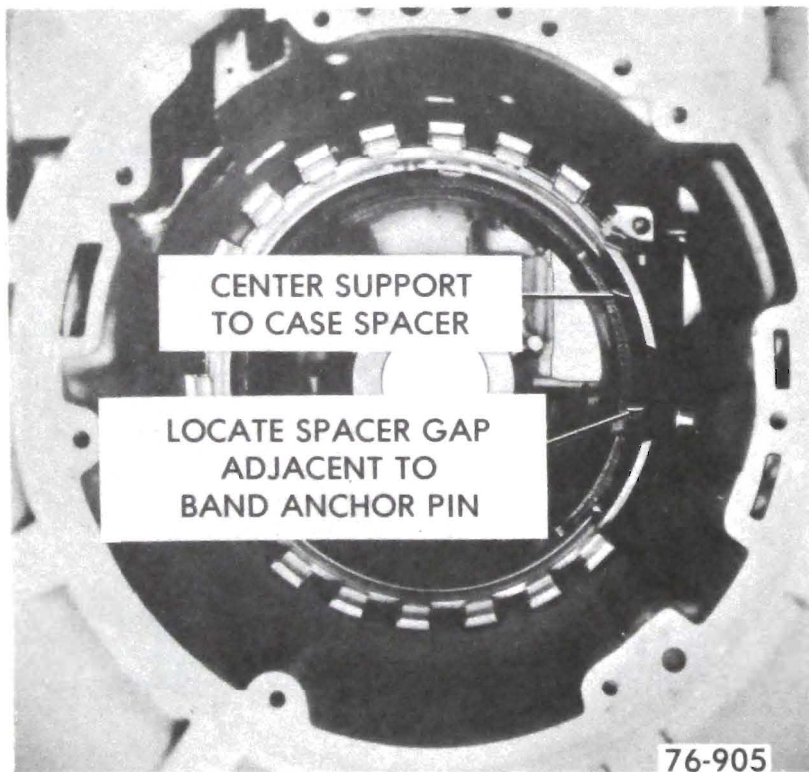

Figure 76-99
21. Remove support to case spacer. See Figure 76-99.